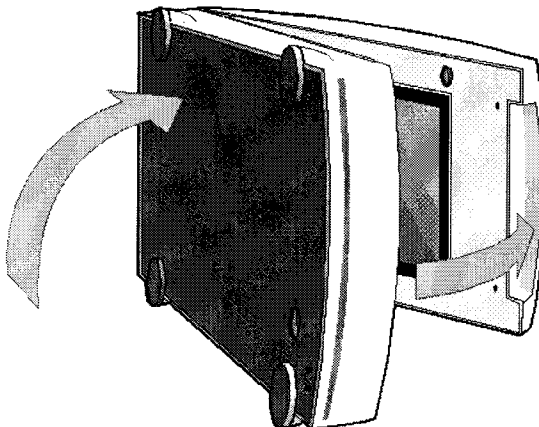

Fig. 2.4
4. Turn the densitometer on its side and open the transparency module (Figure 2.4).